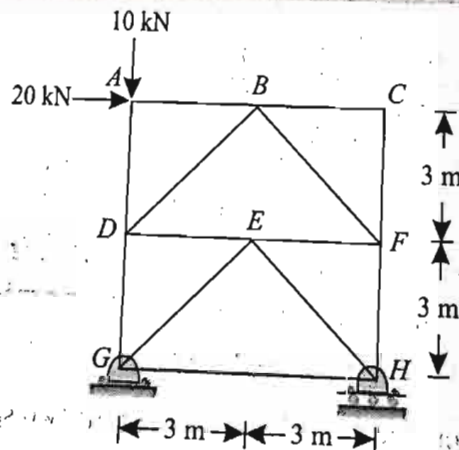

Fig. 9.37.
2. A truss is subjected to two point loads at A as shown in Fig. 9.37.